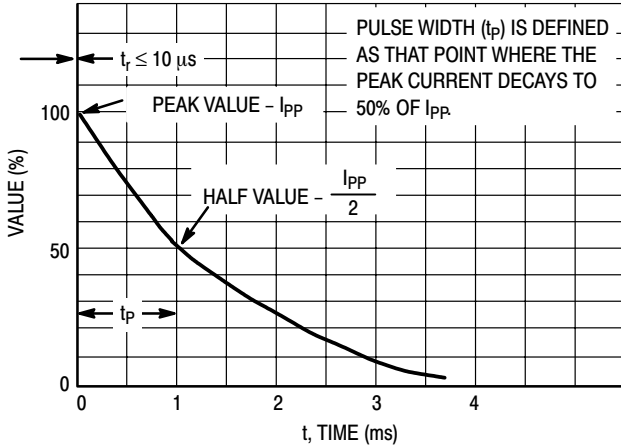
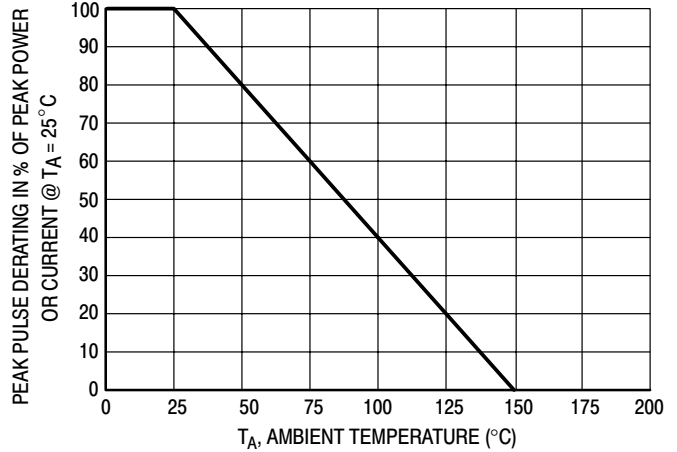

Figure 5. Pulse Waveform
Figure 6. Pulse Derating Curve
6. Surge current waveform per Figure 5. and derate per Figure 6.
- Peak Power – 40 Watts @ 1.0 ms (Bidirectional), per Figure 5. Waveform